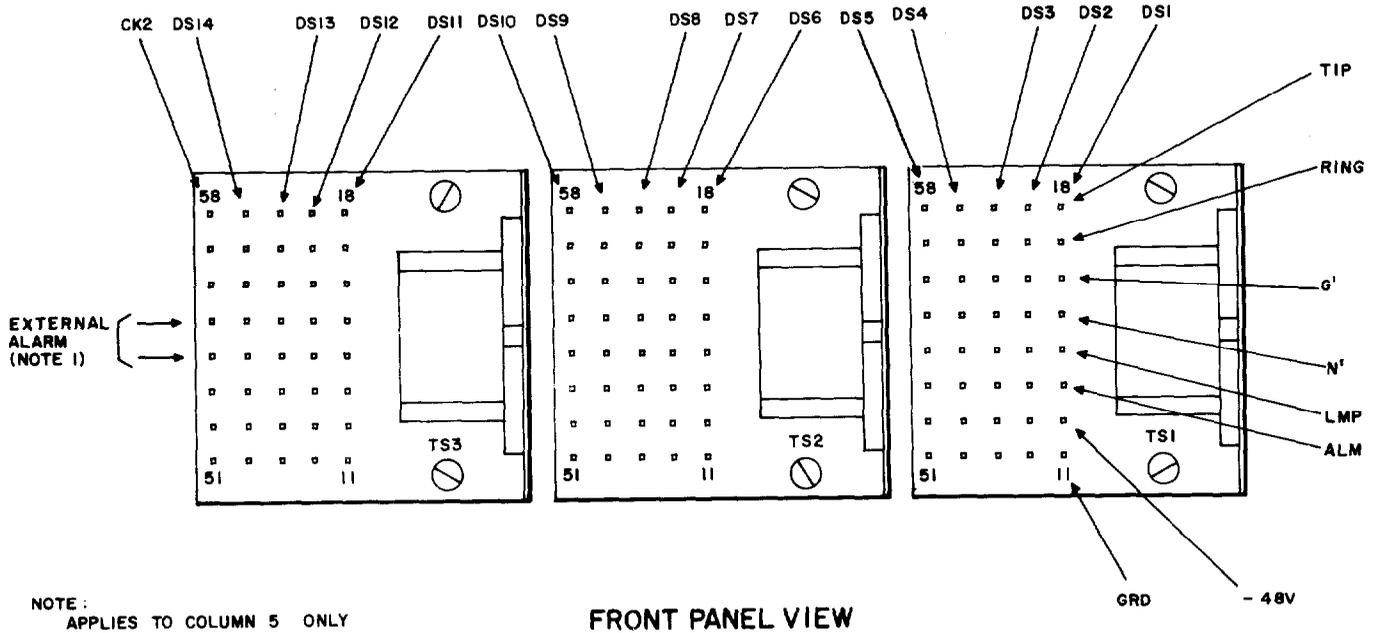
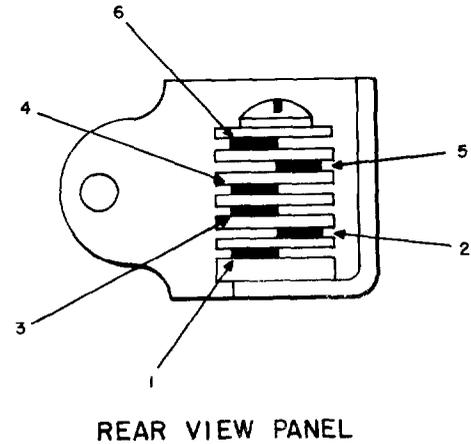

Fig. 2—43A1 Data Mounting—D5A Terminal Identification
Fig. 4—547B Key Switch—Terminal Identification
circuit pack (CP)] and in Fig. 4 for the 547B key switches.
TERMINAL STRIP ROW (2.02)	INTERFACE DRIVER TERMINAL (Fig. 4)
(c) Connect terminal 1 to terminal 5 on each key switch (Fig. 4).
- (a) Connect terminal 5 (Fig. 4) of the left-most (viewed from front panel) key switch of each group to the terminal in row 7 (Fig. 2) corresponding to the associated data set 115A.
- (d) Temporarily connect a ground to terminals in row 8 (except terminal 8 of TS3) of terminal strips TS1 through TS3 of the data mounting (Fig. 2).
2.15 When permission is given to proceed, disconnect the existing alarm loop circuits and connect (***wrap and solder***) the legs to terminals 3 (tip) and 4 (ring) of the key switches (Fig. 4) as given in local instructions.
- (c) Connect terminal 1 to terminal 5 of new key switch (Fig. 4).
- (b) Connect a jumper between terminal 2 of key switch (Fig. 4) to left (viewed from front panel) of the switch associated with the leg being deleted to terminal 6 of key switch to right of the switch associated with the deleted leg.